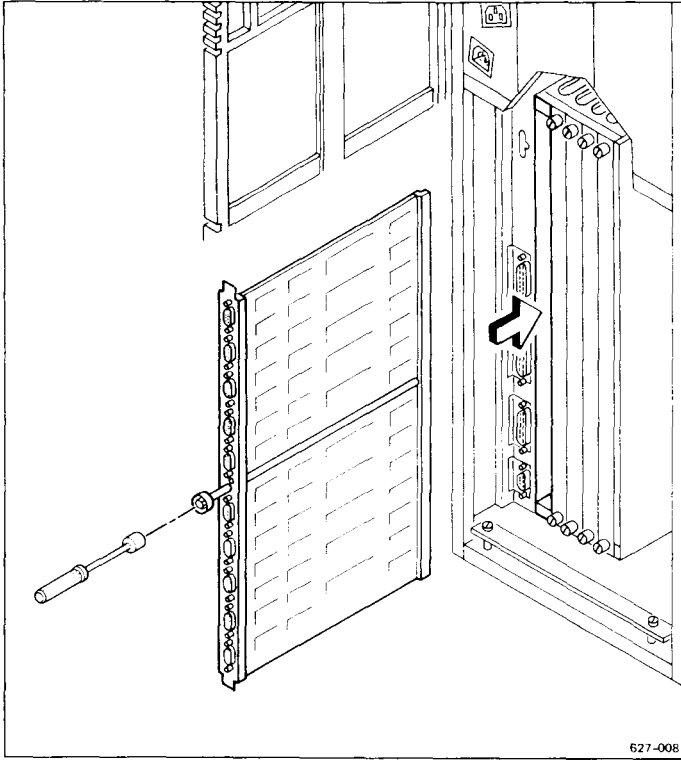

Figure 6-5. Installing an I/O Expansion Board
4. Slide the board into the guides in the card cage until the board meets a solid resistance (see Figure 6-5).